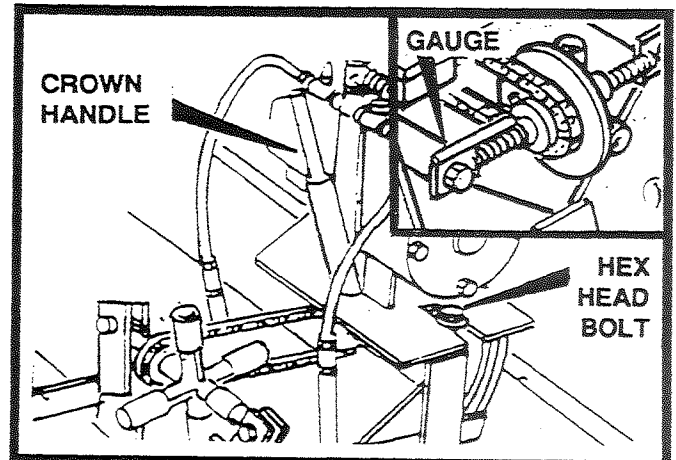

FIGURE 23
8. To obtain the crown or valley desired refer to figure 23, and loosen hex head nut. Remove crown handle and depending on the requirement push down for positive crown or pull up for negative valley.
9. There is a gauge located on rear of crown adjuster to indicate when screed is level. See figure 23.